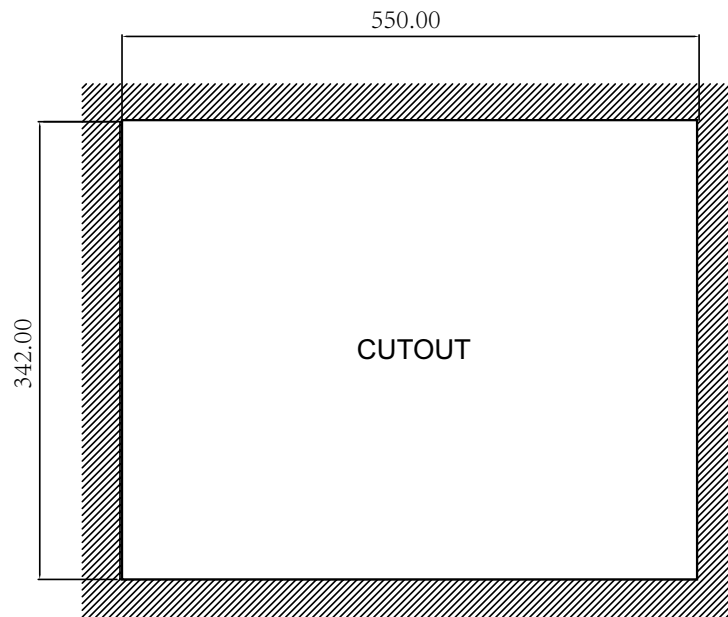

Figure 2.29 PPC-3210SW cutout dimensions
2. Install the panel PC in the cabinet and retrieve eight hook brackets from the accessory box (Figure 2.29).